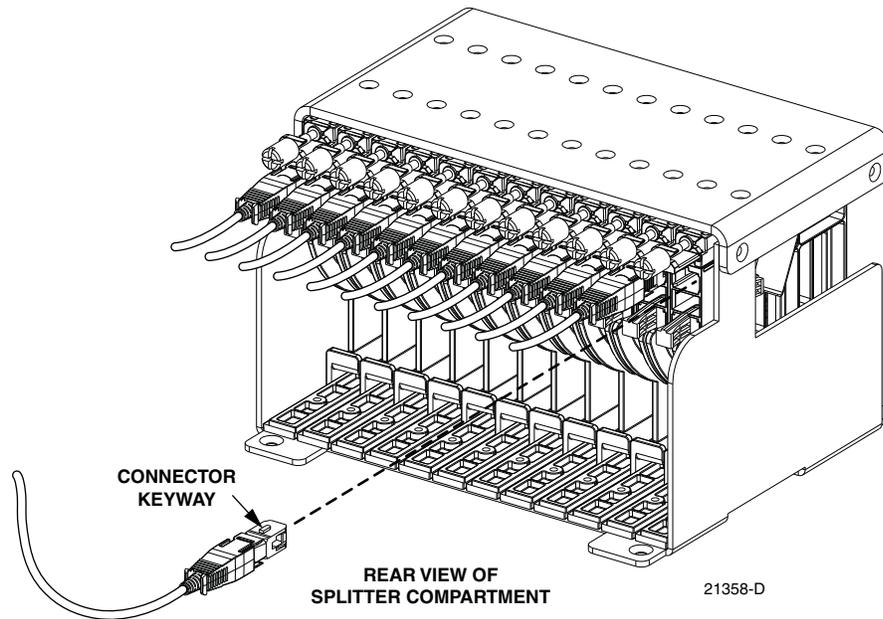

Figure 19. Feeder Cable Connector
4. Remove the corresponding feeder cable connector(s) from the rear of the splitter compartment as shown in Figure 19.
3. Remove the feeder cable connector(s) from the rear of the splitter compartment (see Figure 19).